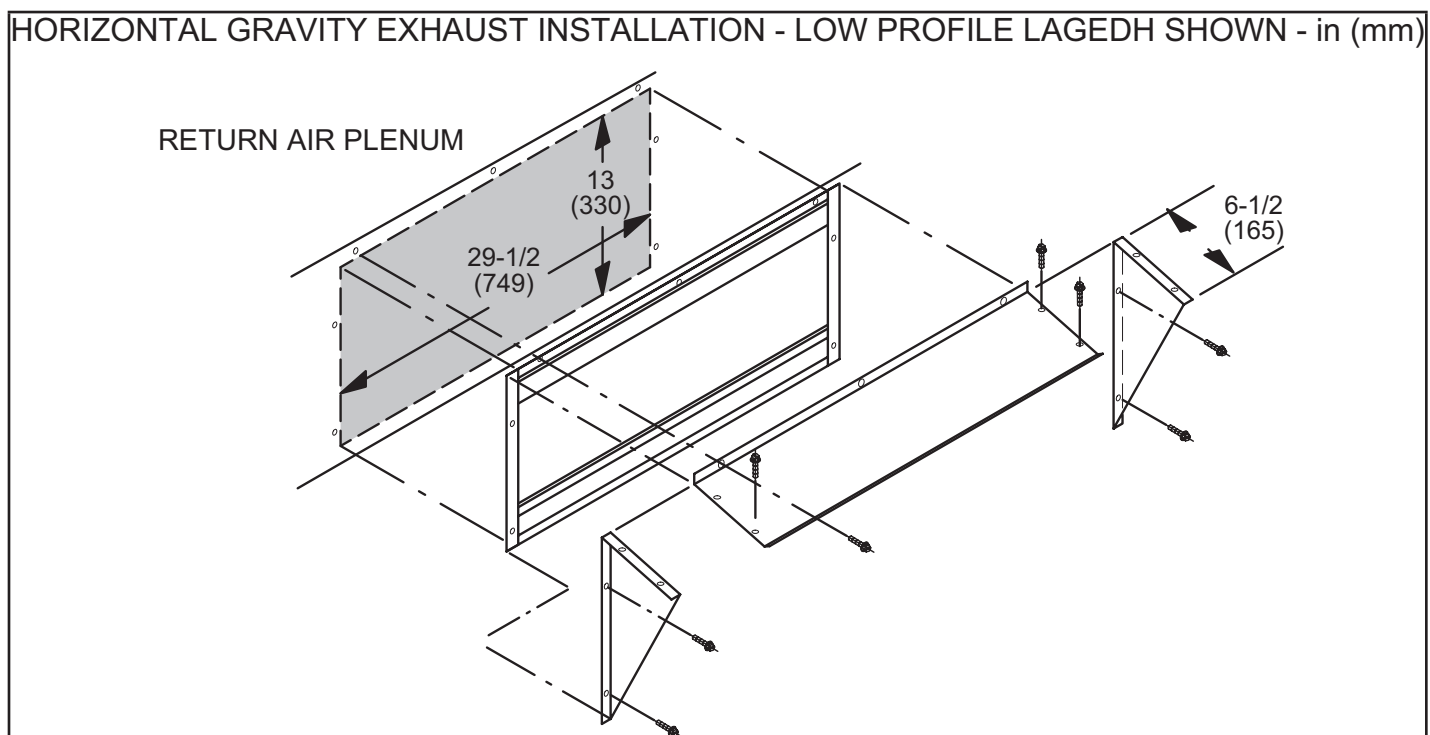

**FIGURE 10**
- 1 - Attach hood top to hood top support at the top of the damper assembly. See FIGURE 10.
- 2 - Remove screws from sides of economizer assembly (if installed). Remove paper backing from foam gaskets on hood sides. Secure left and right hood sides to the damper assembly as shown in FIGURE 10.